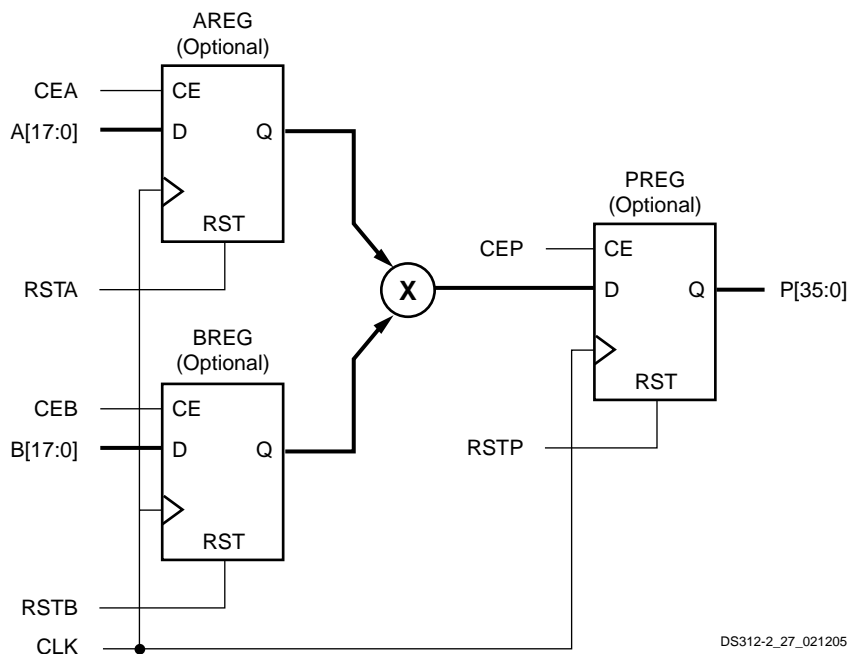

Figure 33: Principle Ports and Functions of Dedicated Multiplier Blocks
As shown in **Figure 33**, each multiplier block has optional registers on each of the multiplier inputs and the output. The registers are named AREG, BREG, and PREG and can be used in any combination. The clock input is common to all the registers within a block, but each register has an independent clock enable and synchronous reset controls making them ideal for storing data samples and coefficients. When used for pipelining, the registers boost the multiplier clock rate, beneficial for higher performance applications.
**Figure 33** illustrates the principle features of the multiplier block.